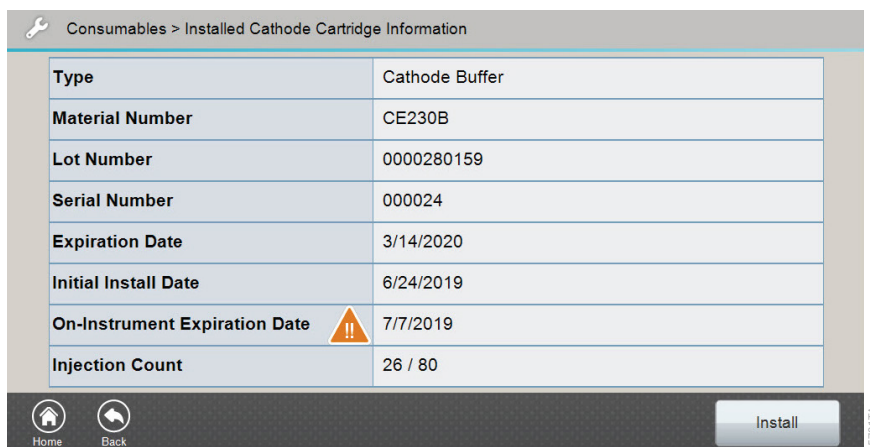

Figure 21. 'Installed Cathode Cartridge Information' screen.
- Select **Cathode Buffer** on the 'Consumables' screen (Figure 11). This will open the 'Installed Cathode Cartridge Information' screen (Figure 21).